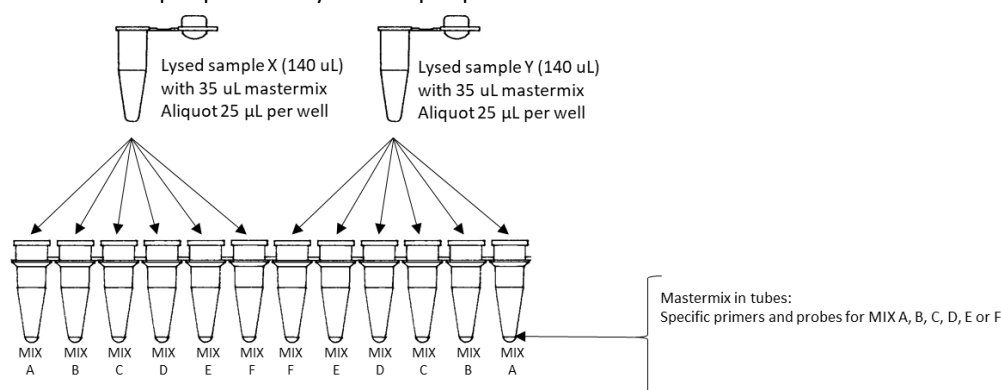

Figure 2 Pipetting scheme of Sample/Master mix specimens.
5. Transfer **25 µL** of the first Sample/Master Mix specimen to tube 1 of PCR Reagent Strip (Figure 2). Repeat this for tubes 2 – 6.
6. Transfer **25 µL** of the second Sample/Master Mix specimen to tube 7 its PCR Reagent Strip. Repeat this for tubes 8 – 12 (Figure 2).